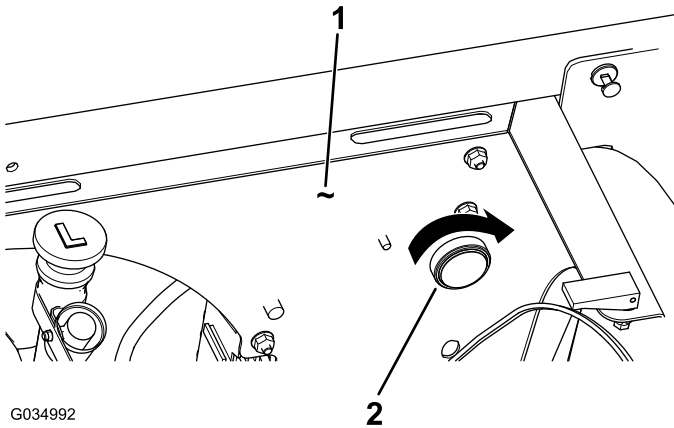

Figure 9
5. Insert the alarm into the hole in the rear-frame panel and screw the cap onto the alarm (Figure 9).